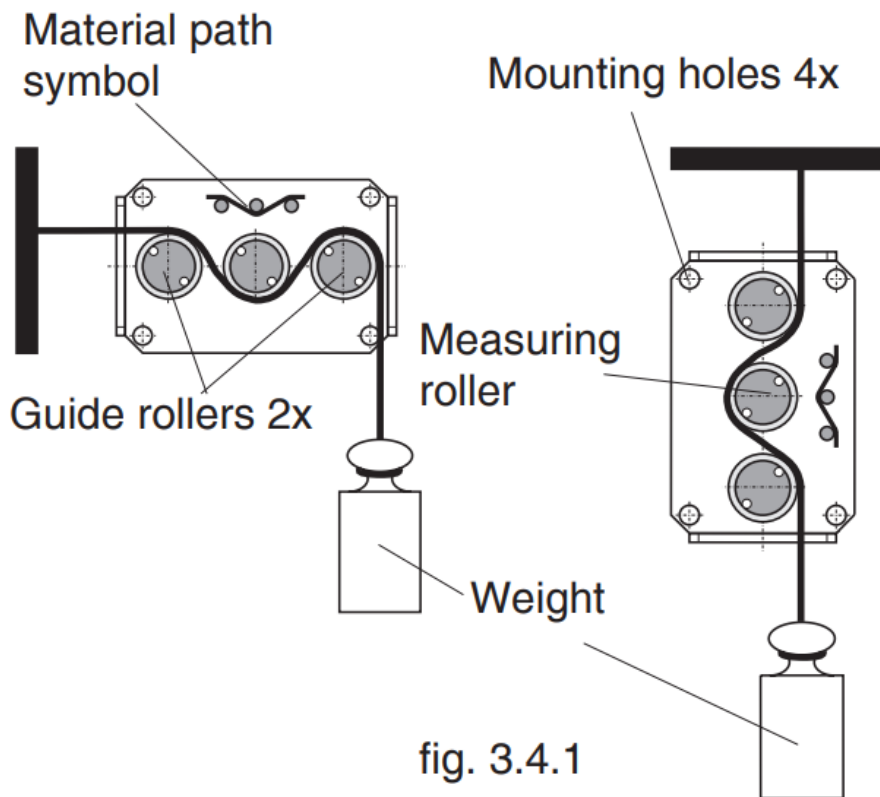

fig. 3.4.1
- Hang a weight that corresponds to 10% of the tension range (pay attention to the correct unit of measure) from the process material, vertically, as shown in fig. 3.4.1. (Always use a fresh portion of the material to be measured.)
- Hang a weight that corresponds to 90% of the tension range (pay attention to the correct unit of measure) from the process material, vertically, as shown in fig. 3.4.1.